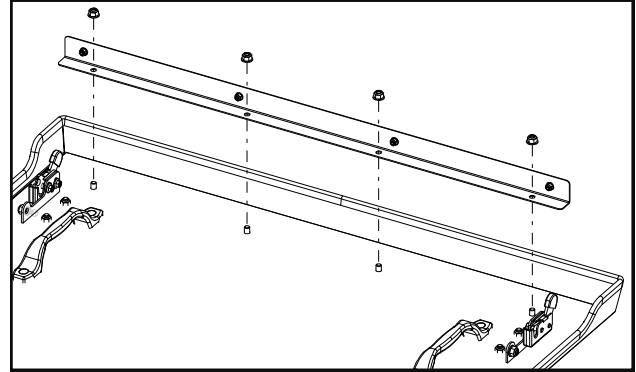

Fig. 12.1 (underside of roof with header)
12.1 Remove the (4) factory install 5/16-18 flange hex nuts from the bottom of the roof. Install the Rear Panel Header Assembly to the bottom side of the roof. Re-install the hex nuts. See fig. 12.1.